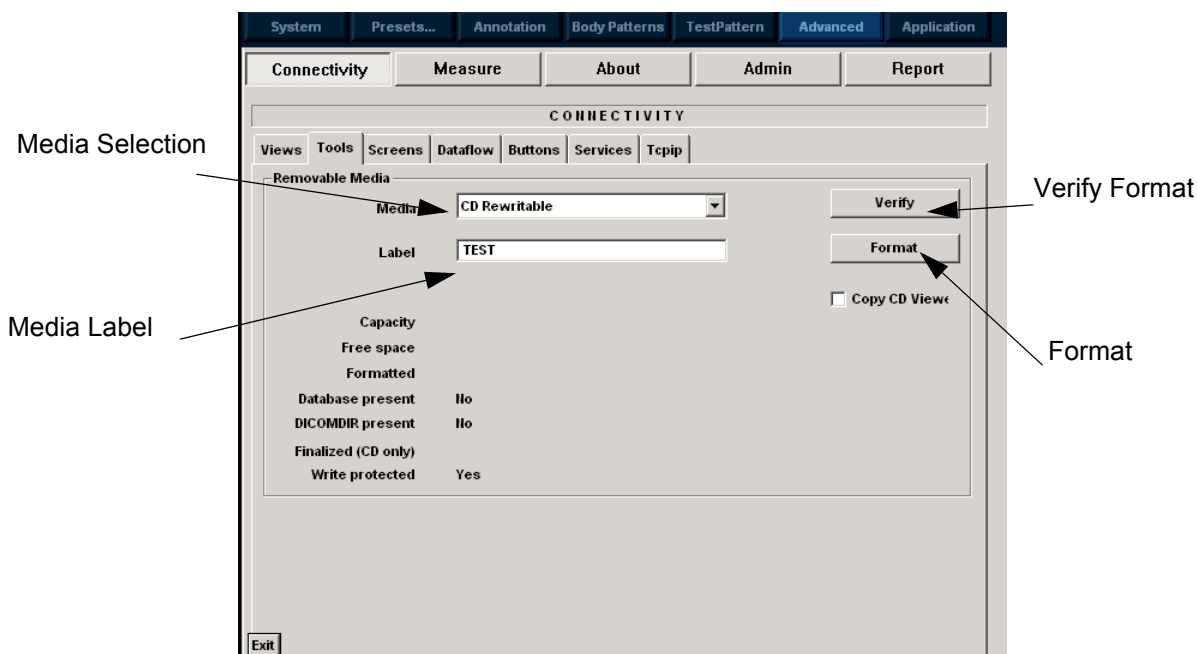

Figure 4-17 Format and Verify Media
- 4.) Enter the label for the media as shown in Figure 4-17 on page 4-25 . It is best to use all capital letters with no spaces or punctuation marks. Press Format.
- 6.) If desired, verify that the format was successful by returning to *Utility>Advanced>Connectivity>Tools* and selecting VERIFY as shown in Figure 4-17 on page 4-25 .